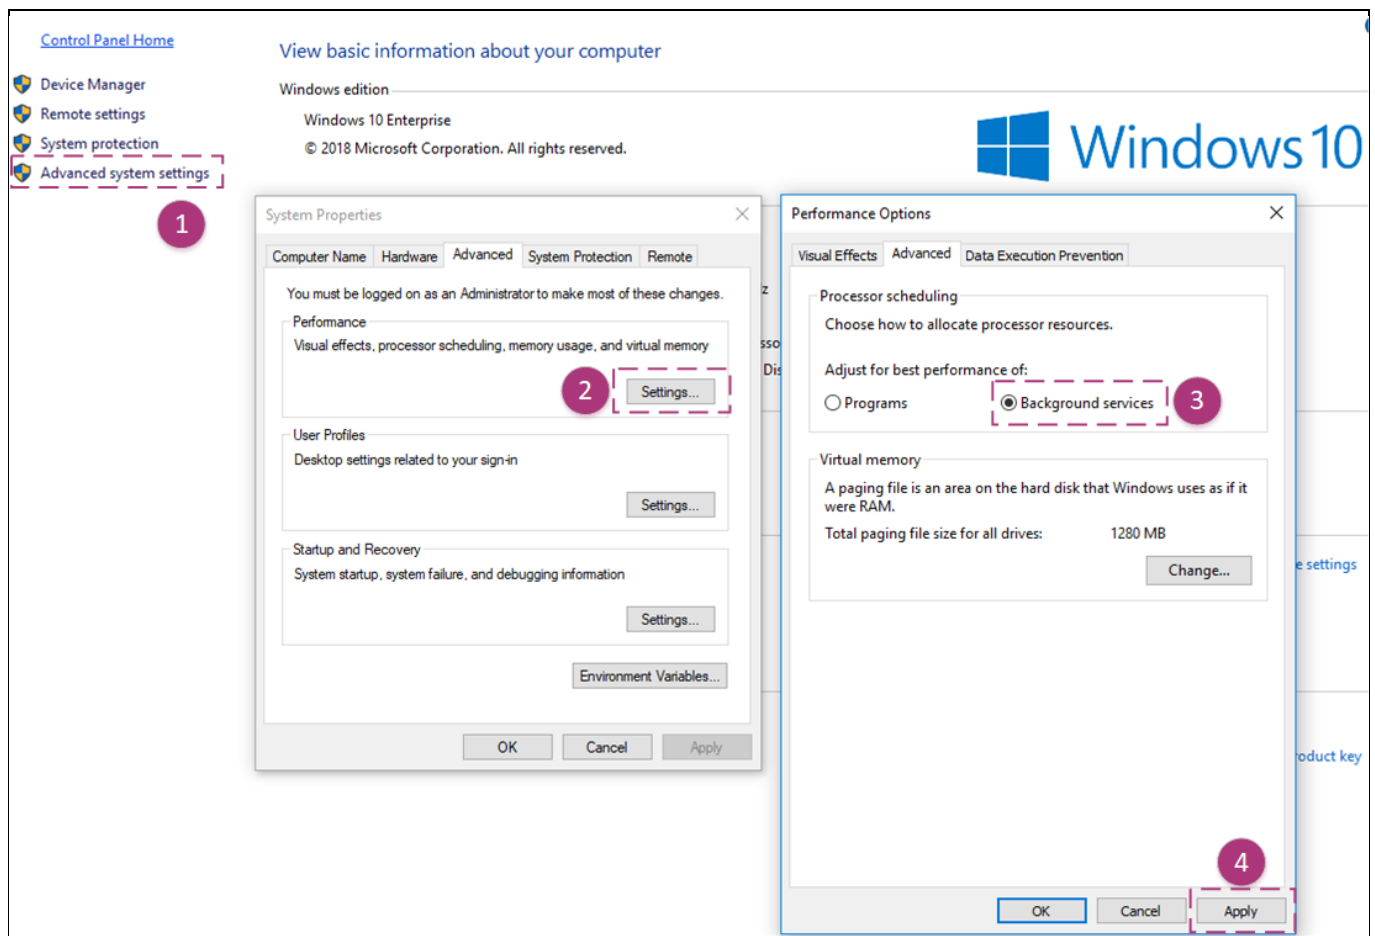

Figure 2 Host computer system settings
- In the pop-up window of *Performance options*, go to the *Advanced* tab, select *Background services* and apply changes as shown in Figure 2.